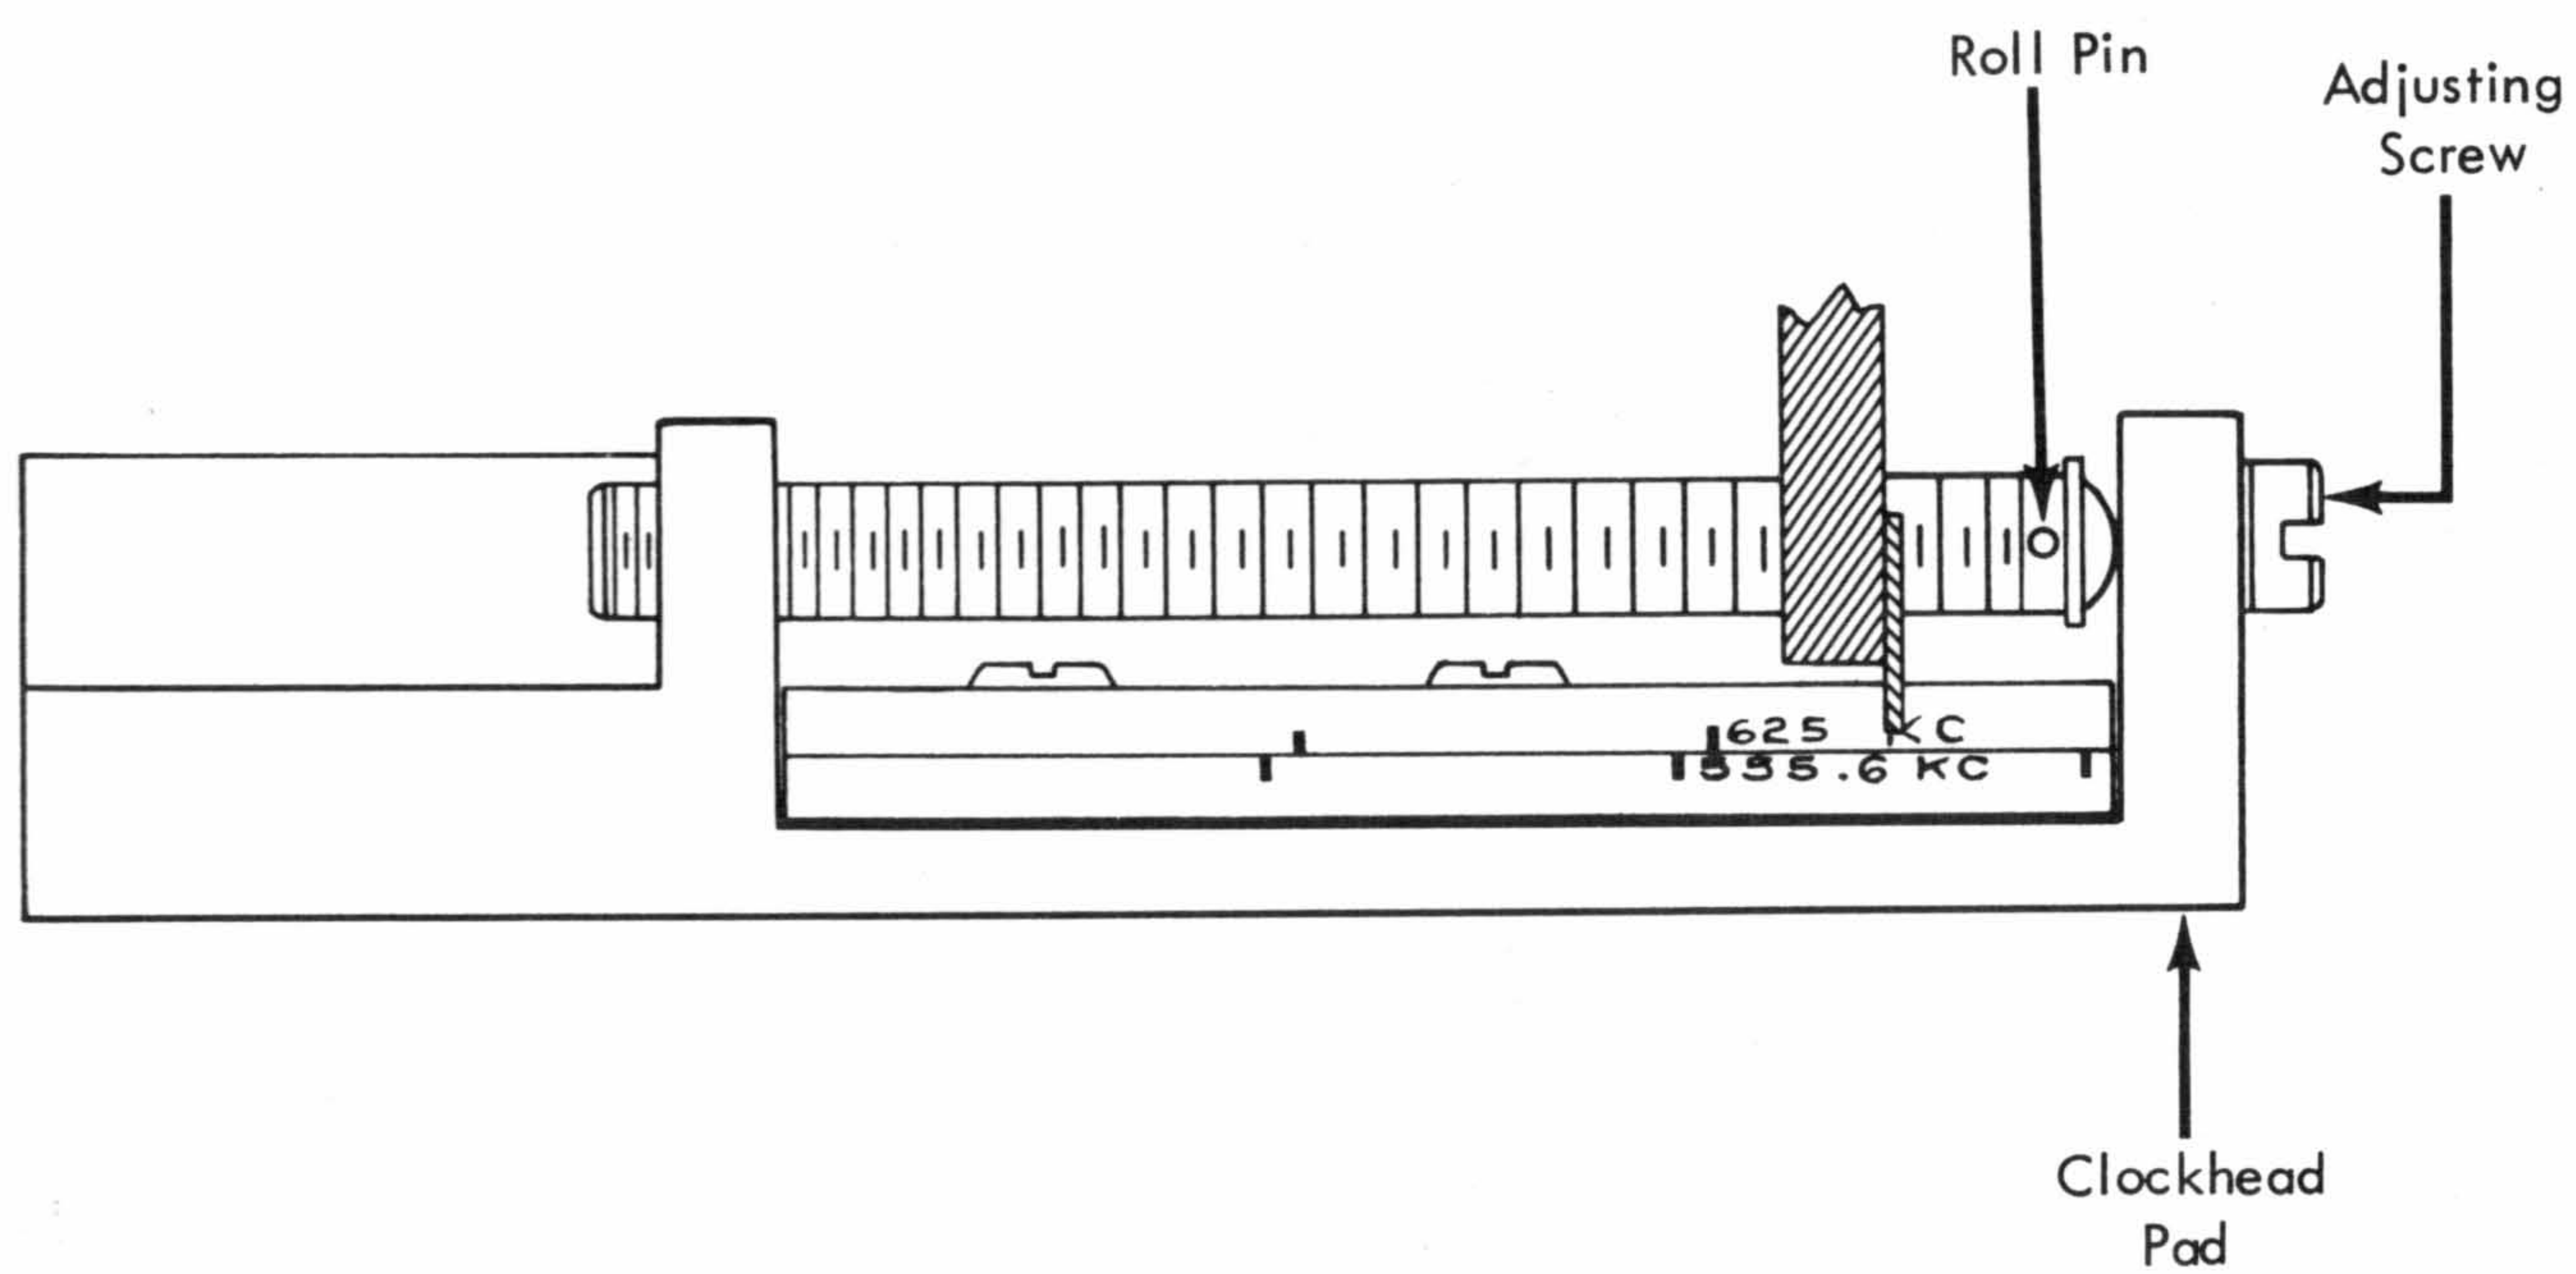

Figure 2-32. Clock-Head Adjustment
2. Replace clock head assembly by slipping over locating pins. By means of the adjusting screw (Figure 2-32), adjust clock head as far in as possible and install rear mounting screw. Check for head to disk interference. Back off clock head to extreme out position and install front mounting screw.